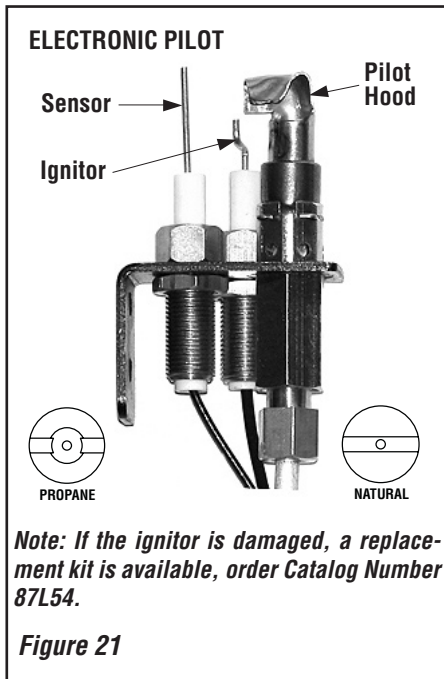

Figure 21
Step 5. See **Figure 21** and replace the pilot orifice as follows: Remove pilot hood assembly by grasping the hood and pulling the assembly straight up. Under the hood is the pilot orifice. With caution and using a magnetic screwdriver, undo the pilot orifice and remove it from the assembly. Carefully replace the orifice with the one provided with the kit. Press the pilot hood back over the assembly. The orientation should be aligned as shown in **Figure 21**. **Exercise extreme care to prevent damage to or breakage of the ignitor assembly.**
Note: Propane pilot orifices are identified with a countersink in the head. Natural gas orifices do not have this countersink. See **Figure 21**.